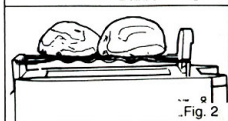

Fig. 2
4. Place the food centrally on the rack - see fig. 2 & 3.